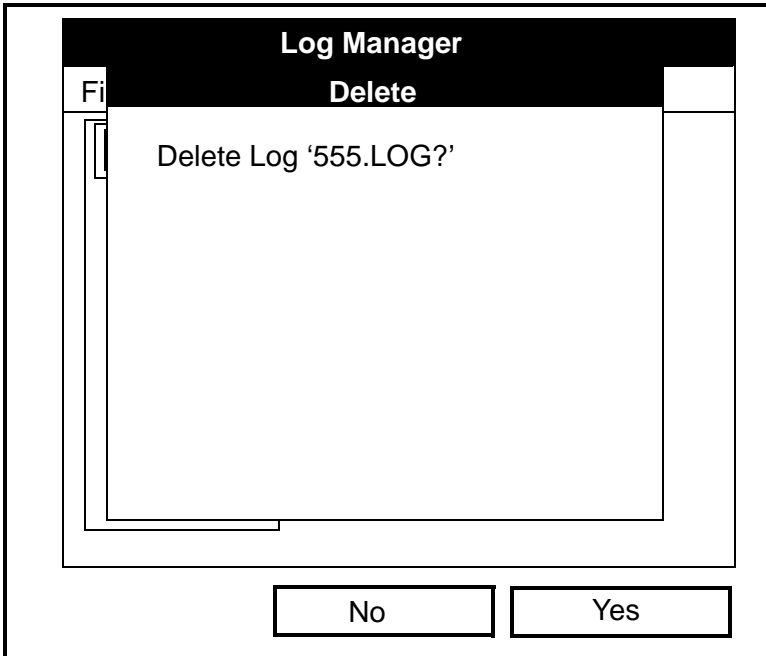

Figure 7-8: The Delete Confirmation Window
3. A delete confirmation window opens, as shown in Figure 7-8 on the next page. Press [F2] (No) to stop the deletion, or [F3] (Yes) to delete the log.